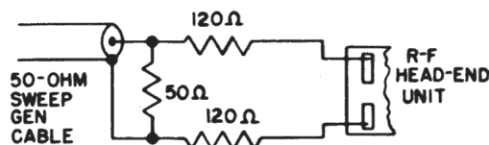

Fig. 18. Generator Termination
2. Sweep generator cable should be properly terminated in its characteristic impedance. See Figure 18.
1. Disconnect 300 ohm line from head-end terminals. Sweep generator cable should be properly terminated and coupled to the antenna terminals at the head end through a capacitor, Figure 18.